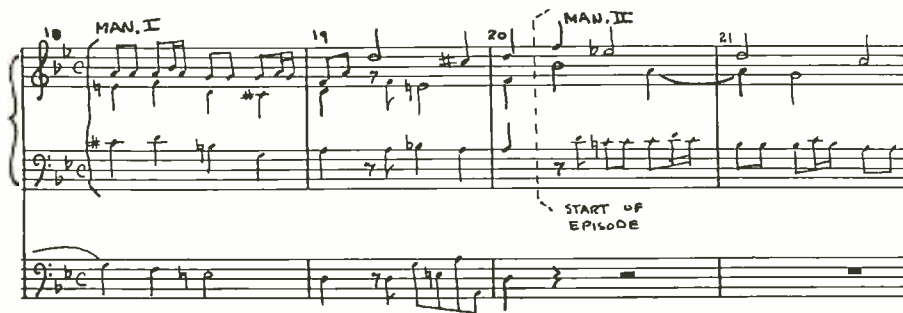

Fig. 5. A passage in which an abrupt change in registration is made by changing manuals. (Fugue in G Minor, J. S. Bach)
Fig. 4 (left). Square-wave response of mixer at 50 cps, with input signal at top and output at bottom. Fig. 5 (right). Similar square-wave curves for 15,000 cps.
Figure 5 reproduces bars 18–21 of another organ fugue (ref. 14, pg. 22). In bar 20, observe that the pedal voice drops out. This is the beginning of what is called the "episode" of this particular fugue. Up to this point a good organist will have been playing with both hands on the same manual using a rather robust selection of foundation stops. At the start of the episode a lighter, more sprightly tone is desirable as a relief from the previous section. Often, as here, such a change must be made rapidly; there is not time to change stops, nor does one have a hand free with which to do so without interrupting the progress of the music. The customary way of accomplishing such a change is to set up the two desired contrasting registrations on two different manuals before starting to play. At the appropriate point in the music one simply shifts one's hands from one keyboard to the other. In this example Bach would probably have been playing on his "Hauptwerk" manual up to bar 20, switching to the "Ruckpositiv" for the episode. Today, on the usual two-manual electronic organ, one uses the inevitable "Great" and "Swell" claviers correspondingly.